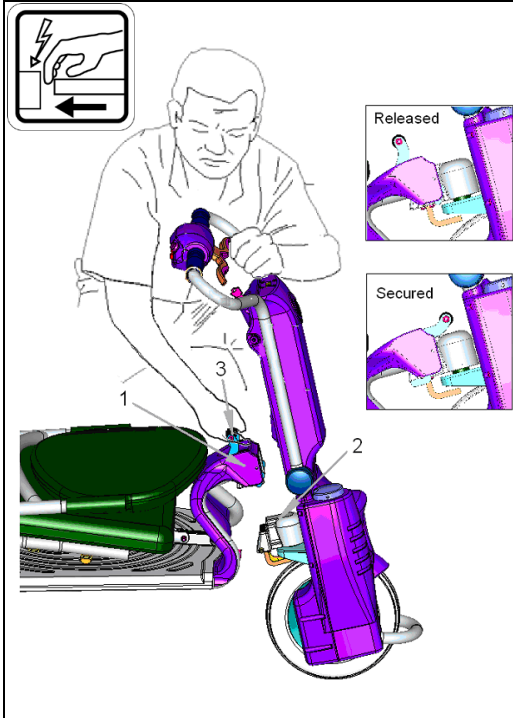

Figure 15
As shown in figure 15. Pull the lock lever upward and backward to release position. Now pull with the lever the frame bushing (1) upward to separate it from the tiller tapered block. The electrical disconnection is being done at the same action.